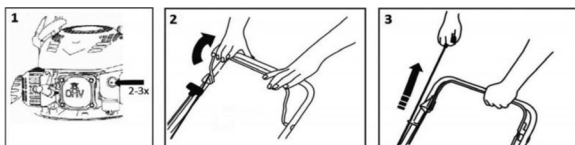

Fig.5
If the engine has not been warmed up, press the starter cord 2-3 times (Fig. 5 - item 1). If the engine has already been warmed up, it is not necessary to use the starter cord.
Pull the start/brake lever toward the handle and hold it in this position (Fig. 5 - item 2), then pull the starter handle (Fig. 5 - item 3). The engine should start after 3-4 pulls.